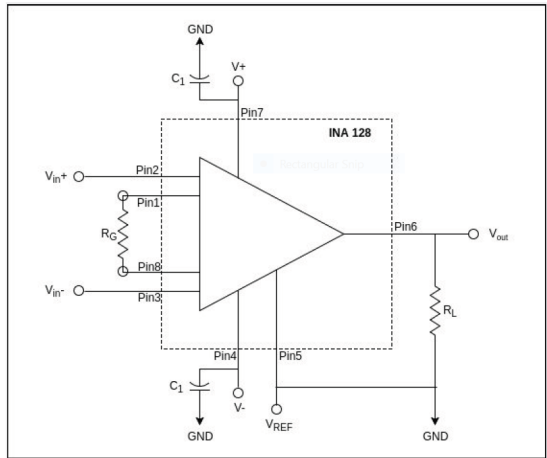

Figure: 5
- 2 Using $R_G = 220\text{ohms}$, $R_L = 10\text{kohms}$, $C_1 = 0.1\mu\text{F}$, $V_+ = 12\text{V}$, and $V_- = -12$, wire up the instrumentation amplifier circuit. Refer to Fig. 5. Explain the purpose of capacitor C_1 connected in parallel with the power supply. Note polarity of C_1 and connect accordingly.